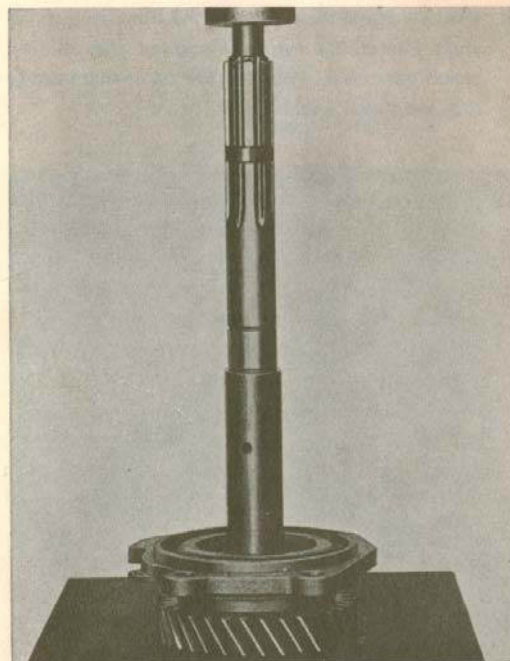

Fig. 3-21. Disassembling mainshaft, II
Remove the locking ring and press off the cam for the overdrive oil pump. Remove the locking ring for the mainshaft rear bearing. Slide the engaging sleeve (41) for 1st and 2nd speeds forwards. Place the shaft in a press and support under 1st speed gear wheel (10). Press out shaft, see Fig. 3-21.